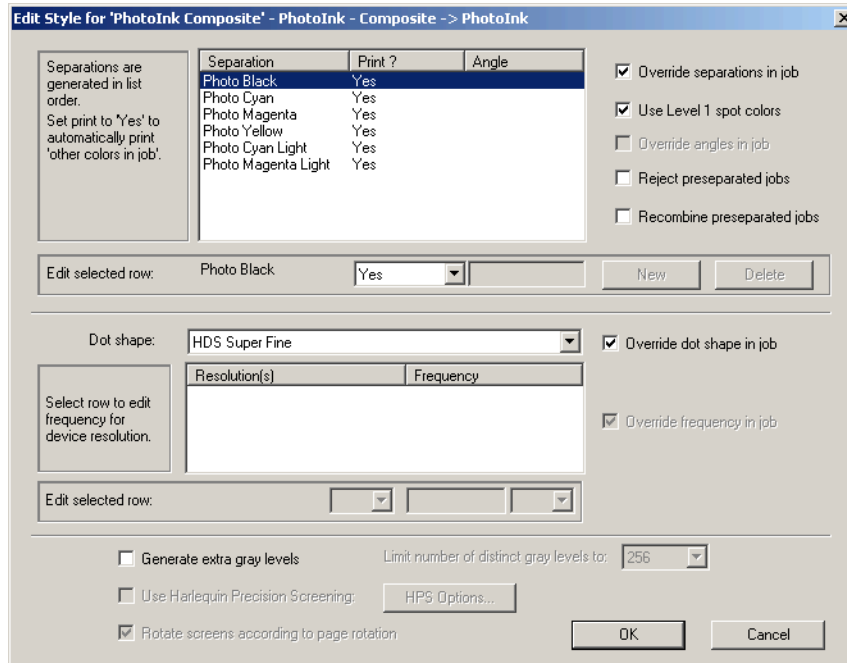

Figure 11 Edit Style dialog
3. From the Style Name list, select the style you want to change, and choose **Edit** to open the Edit Style dialog, Figure 11.